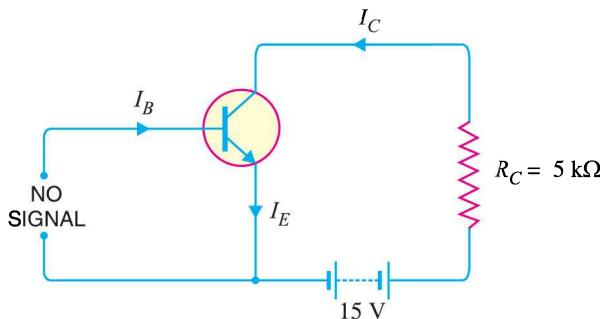

Fig. 8.69
- For the circuit shown in Fig. 8.69, draw the d.c. load line.